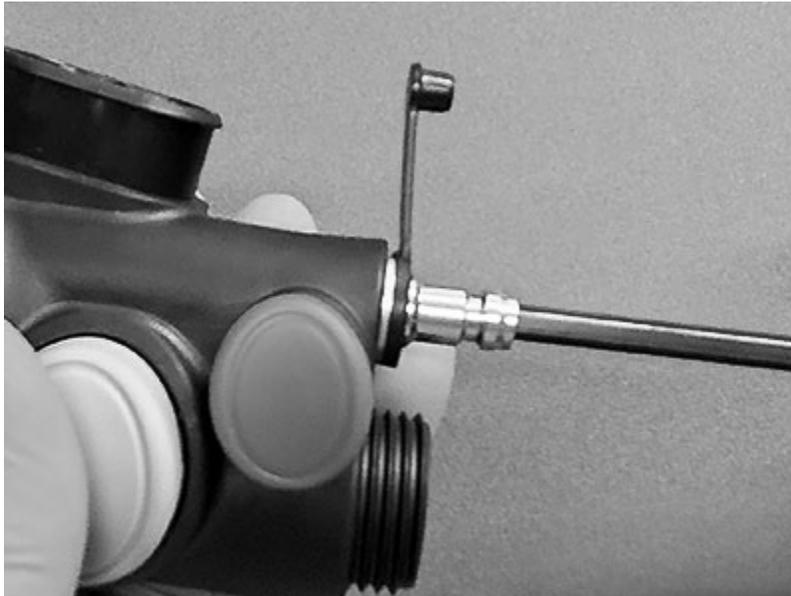

Fig. 51
1. To adjust the Crown Orifice (30), attach the BCI Backup Regulator to a first stage via a low pressure hose and the BCI Adapter. Slowly turn on the air. There should be an audible leak. Disconnect the regulator.
2. Screw the Crown Orifice clockwise 1/4 turn using a 3/16" hex key inserted into the Inlet Stem - Fig. 51. Reconnect the regulator and check for a leak again. If a leak is still present, repeat 1/4 turns (or less) and retests as needed until the valve **just seals** to intermediate pressure.